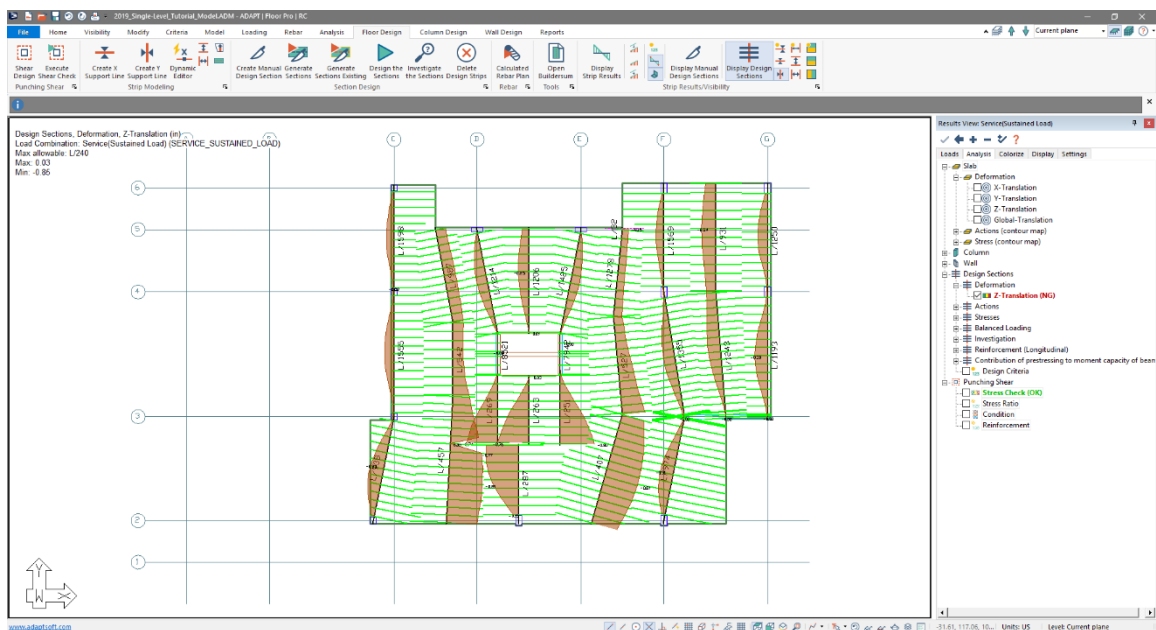

Figure 7-19
- Go to *Floor Design* → *Strip Results/Visibility* click on the *Display/Hide Support Lines in the X-direction*  icon to turn on the support lines and design sections in the X-direction. The user should now see the strip results for the Y-direction support line's deflection check as shown in **FIGURE 7-19**. Note that the deflection check fails in the same locations.